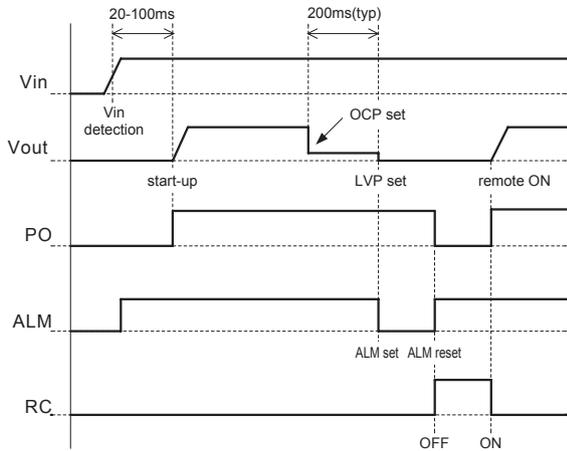

Fig.3.7 Sequence time chart
■ The sequence time chart of Vin, Vout, PO, PR, ALM and RC pins is shown in Fig.3.7.